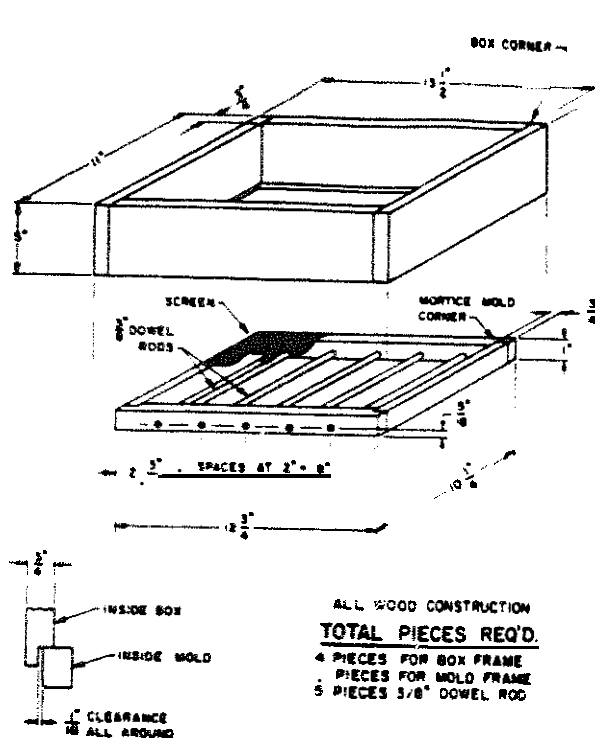

FIGURE 1
- Deckle** box and mold, made of oiled wood (**figure 1**)